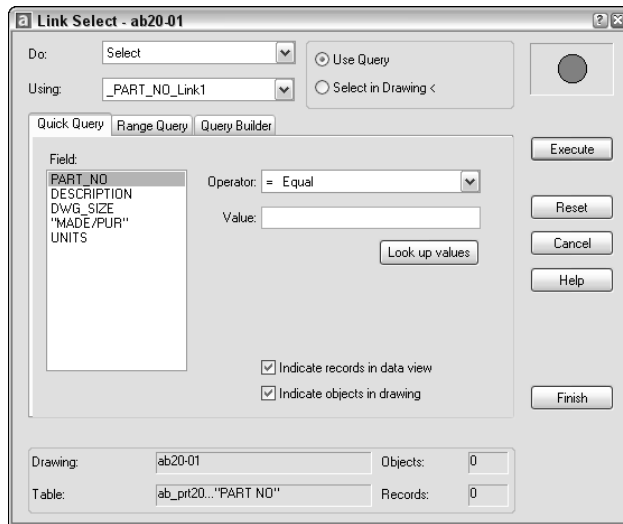

Figure 20-23: Use the Link Select dialog box to create combined selection sets of objects from queries and/or direct selection in your drawing.
1. Choose dbConnect ⇨ Links ⇨ Link Select, to open the Link Select dialog box, shown in Figure 20-23.